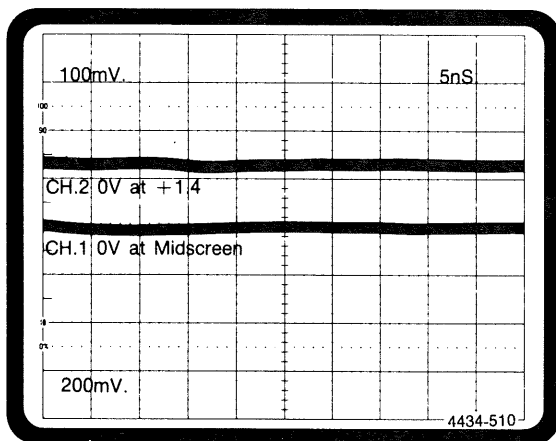

Figure 2-21. 318A Capacitor adjustment oscilloscope setup waveform.
1. Refer to Figures 2-21 and 2-22. Select the Threshold menu and set INPUT EXT CLK = V3 (0.00 V).
5. Repeat the following procedures, (6) through (f), to adjust each clock delay and/or width shown in Table 2-6.